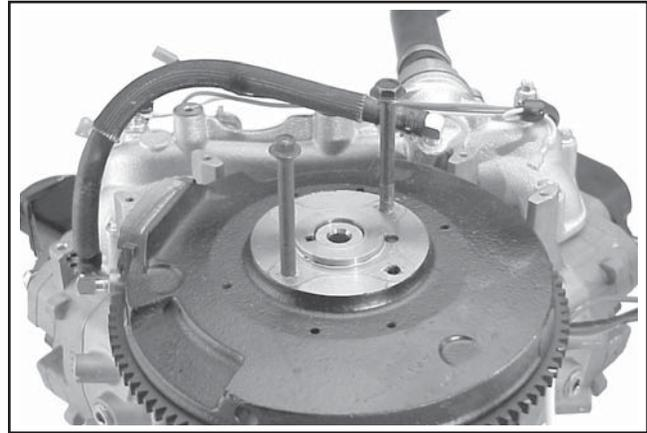

Figure 11-68. Installing Flywheel.
2. Thread the two starter mounting bolts into the hub of flywheel, or use the flywheel puller to serve as a "handle" and set the flywheel in place. See Figure 11-68.